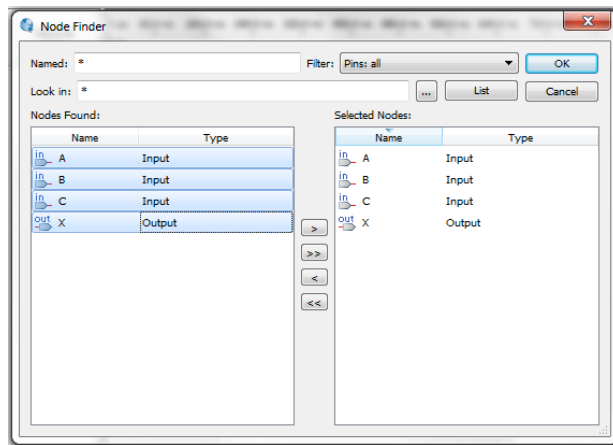

Figure 4.5.5: Adding nodes to the list
- o Your I/O pins should appear in the left box (Figure 4.5.5)